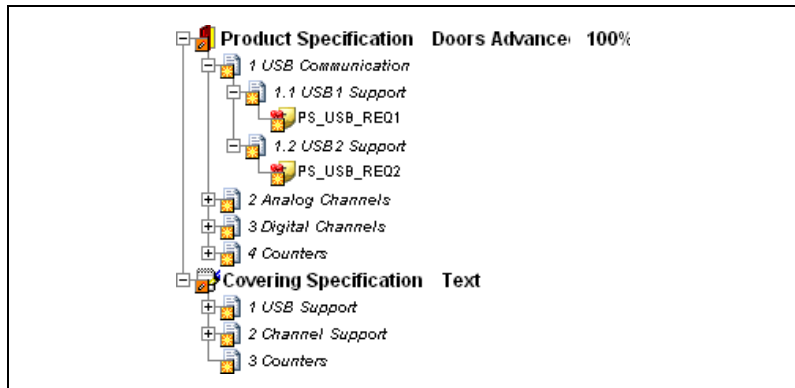

Figure 11-4. DOORS Project
14. Expand the contents of the two documents in the Management View as shown in Figure 11-4. Requirements Gateway displays the contents of the DOORS module. Notice that Requirements Gateway displays the coverage as 100%.